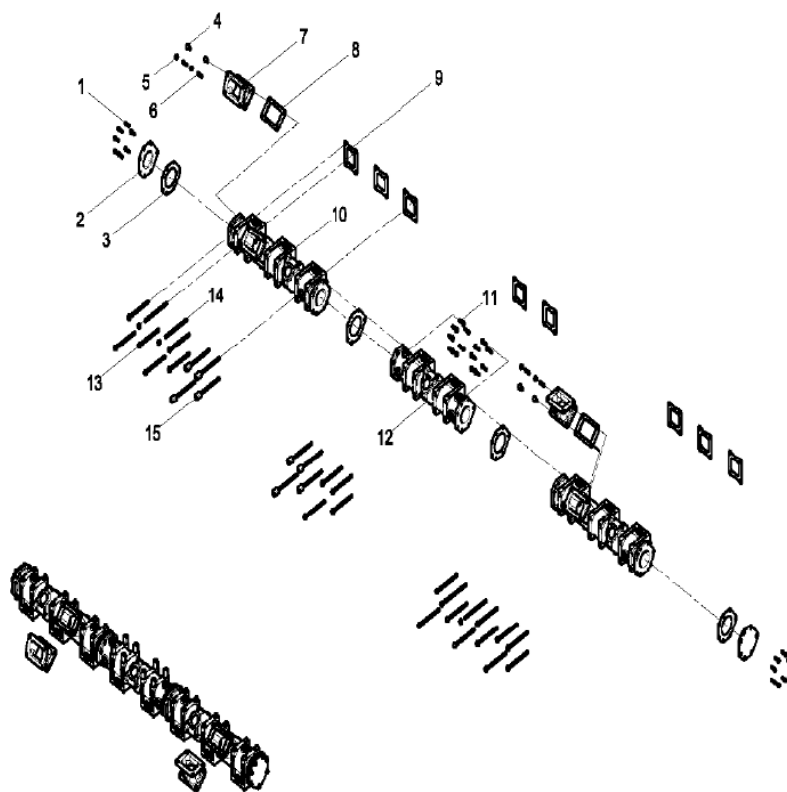

Figure 39. Exhaust Manifold Assembly
3. Remove the four bolts (Figure 39, Item 4) from each of the exhaust pipes (Figure 39, Item 7).
4. Remove the exhaust pipes (Figure 39, Item 7) and the gaskets (Figure 39, Item 8).
5. Remove the twelve bolts (Figure 39, Items 13 & 15) from all three sections of the exhaust manifolds (Figure 39, Item 10).
6. Remove the six bolts (Figure 39, Item 1) from the sides of each section of the exhaust manifolds (Figure 39, Item 10).
7. Remove the three sections of the exhaust manifolds (Figure 39, Item 10) and remove the gaskets (Figure 39, Item 3 & 9).
2. Install new gaskets (Figure 39, Item 3 & 9) onto the cylinder heads and between the three sections of the exhaust manifolds (Figure 39, Item 10).
3. Install the six bolts (Figure 39, Item 1) from the sides of each section of the exhaust manifolds (Figure 39, Item 10).
4. Apply Loctite 242 sealant onto the threads of all twelve bolts (Figure 39, Items 13 & 15).
5. Insert and torque down the twelve bolts (Figure 39, Items 13 & 15).
6. Place new gaskets (Figure 39, Item 8) onto the top of front and rear sections of the exhaust manifolds.
7. Place the exhaust pipes (Figure 39, Item 7) on top of the new gaskets (Figure 39, Item 8).
11. Insert and torque down the four bolts (Figure 39, Item 4) from each of the exhaust pipes (Figure 39, Item 7).
8. Install new O-rings (Figure 39, Item 3) on each cylinder head port.